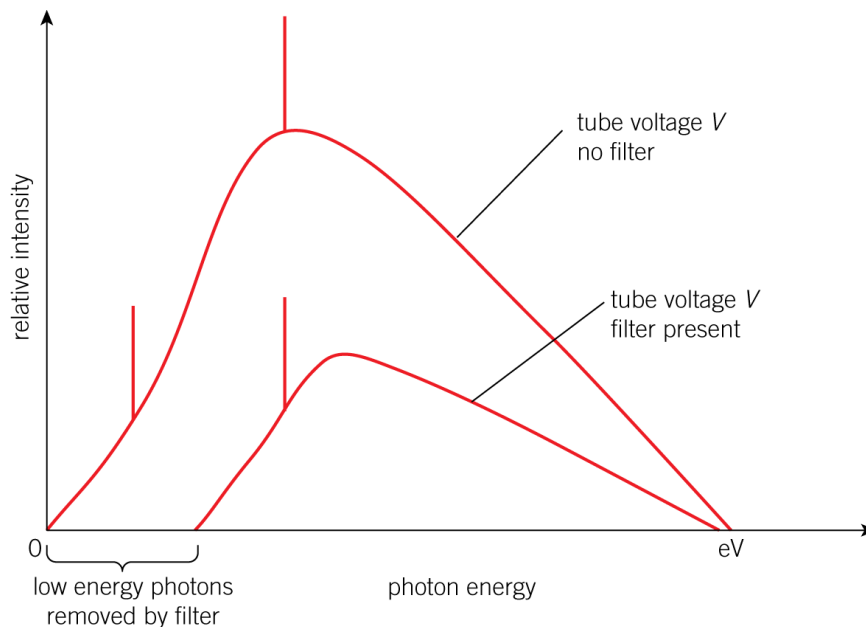

Figure 4 Using metal filters
- a **metal filter** between the X-ray tube and the patient is used to filter out low-energy X-rays which would otherwise be absorbed by tissue. The filters need to be made of a metal with a high atomic number such as copper, tin, or lead. Figure 4 shows the effect on an X-ray beam of using a metal filter in the path of the beam.